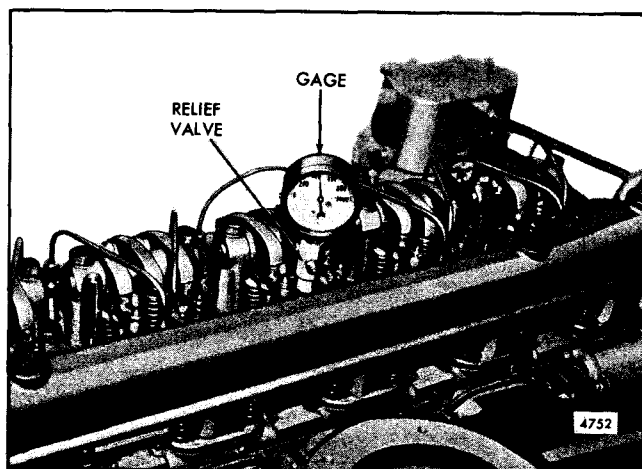

Fig. 2 - Checking Compression Pressure
3. Remove the injector and install the adaptor and the pressure gage (Fig. 2) from Diagnosis Kit J 9531-01.